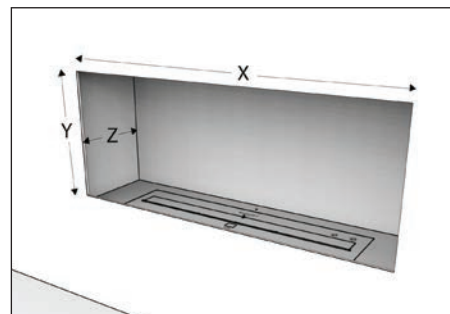

Fig.1
A. FIREBOX MEASUREMENTS FOR “WITHIN A FIREBOX” INSTALLATION (Fig.1)